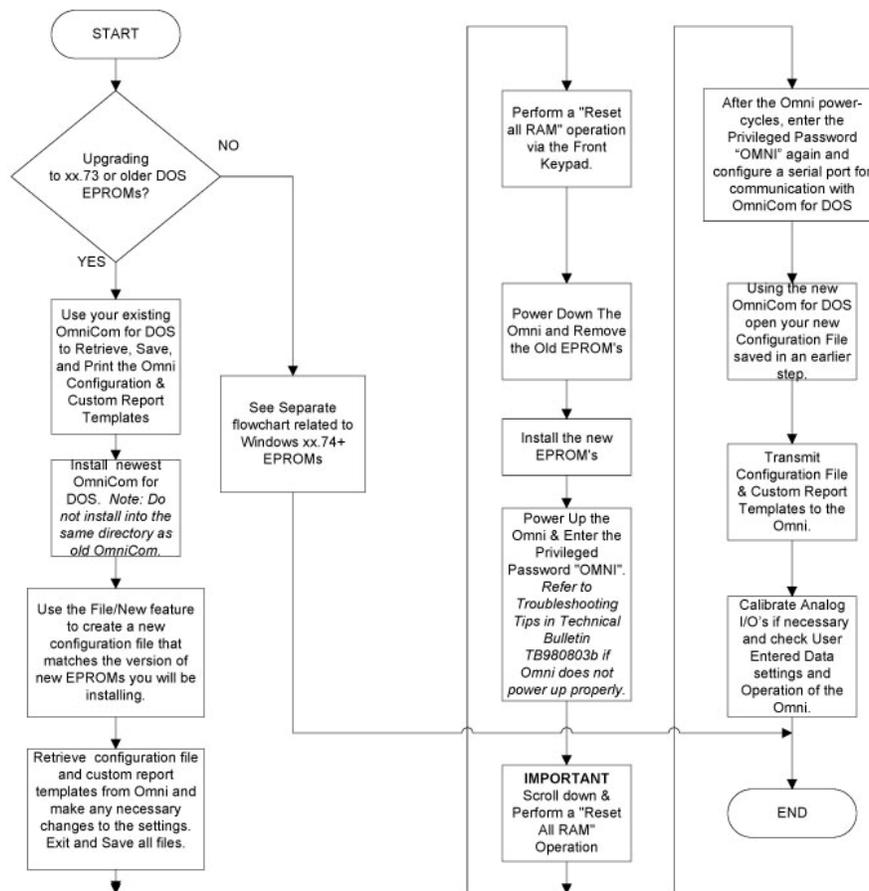

Figure 1. Recommended Procedure for Upgrading OMNI 3000/6000 Firmware to DOS xx.73 or older EPROMs
Location of EPROM Chips – The location of the EPROM chips on the CPU Module is shown in Figure 1. The EPROMs are the two (2) large 32-pin Integrated Circuits (ICs or “chips”) with labels marked U3 and U4. Note the position of the orientation notches at one end of each EPROM.